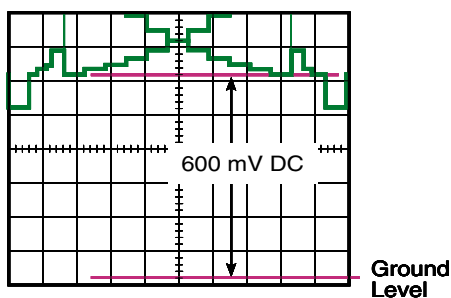

Fig. 4-3
- Adjust R220 so that the Gch DC Voltage at E203 becomes 600 mV DC as shown in Fig 4-3.
- Adjust R320 so that the Rch DC Voltage at E103 becomes 600 mV DC as shown in Fig 4-3.
- Adjust R120 so that the DC Voltage at E303 becomes 600 mV DC as shown in Fig 4-3.